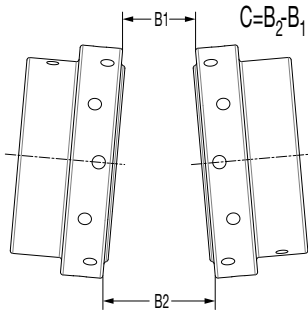

Figure 2 - Angular Misalignment
- Using scales or calipers, check the angular misalignment by measuring dimension "B" at four places on the outer diameter of the hub 90° apart, as seen in Figure 2. Use the "B₂" and "B₁" measurements to calculate "C". Adjust the